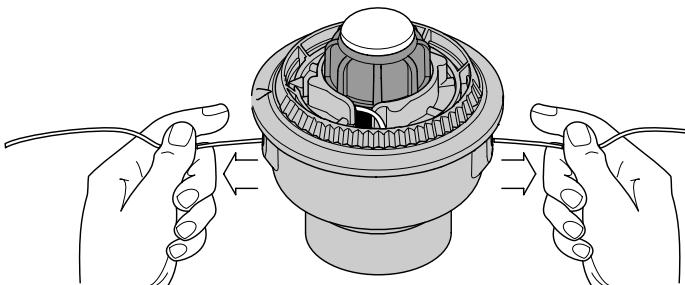

Fig. 13
9. If winding the line becomes difficult or the line jams, pull the ends of the line from the spool (Fig. 13). Continue winding the inner reel counterclockwise.
4. Hold the inner reel in place and install the bump knob, spring and foam seal. Press down and turn the bump knob clockwise. Grasp the ends and pull firmly to release the line from the holding slots in the inner reel. (Fig. 13).
If the SpeedSpool® does not release line correctly, pull the ends of the line firmly from the spool (Fig. 13). If this does not release line, follow the **Cleaning the SpeedSpool® instructions**.